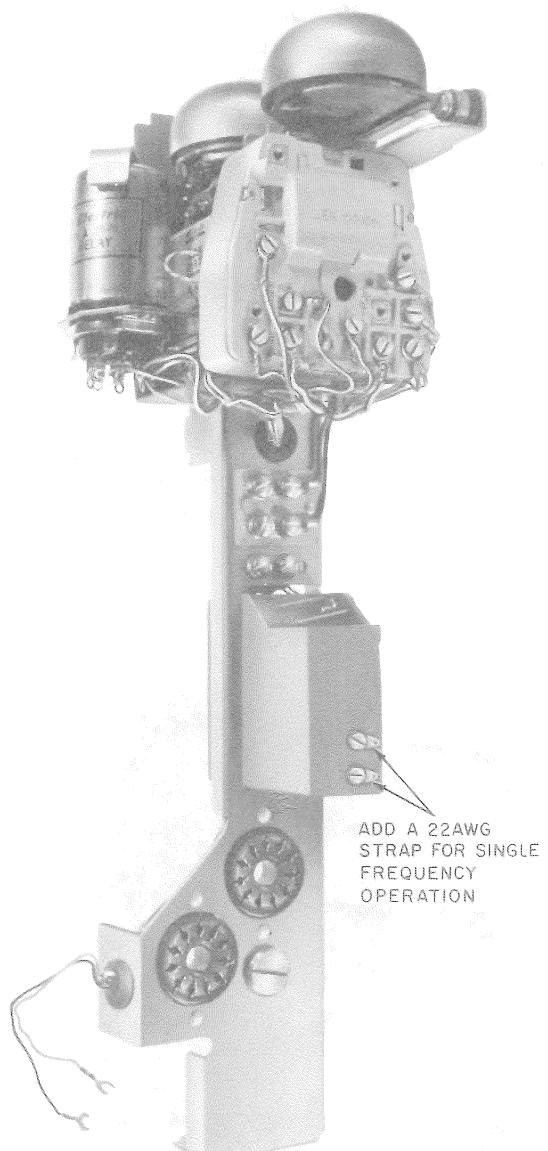

Fig. 20—840693634 Coin Chassis—For Use in 1A/2A-Type Sets
2.18 The P-15E437 coin chassis (with single frequency [SF] coin tone oscillator) used in 1A/2A-type coin telephone sets is being replaced by an 840693634 coin chassis (Fig. 20) which has a dual frequency (DF) oscillator.